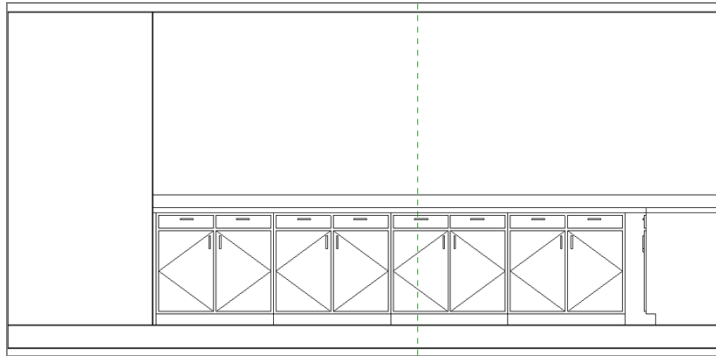

FIGURE 9.62: The base cabinet run
9. Copy the base cabinet to the right three times (four total cabinets), as shown in Figure 9.62.